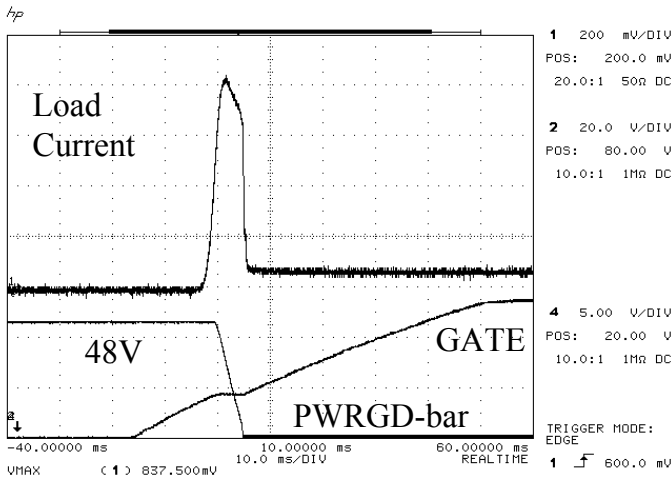

FIGURE 26. INRUSH CURRENT
In the example in Figure 26, the supply voltage is 48V and the load resistor (RL) is 620Ω, for around 80mA. The load capacitance is 100μF (100V). The Sense Resistor (R1) is 0.02Ω (trip point at 2.5A; well above the inrush current here).